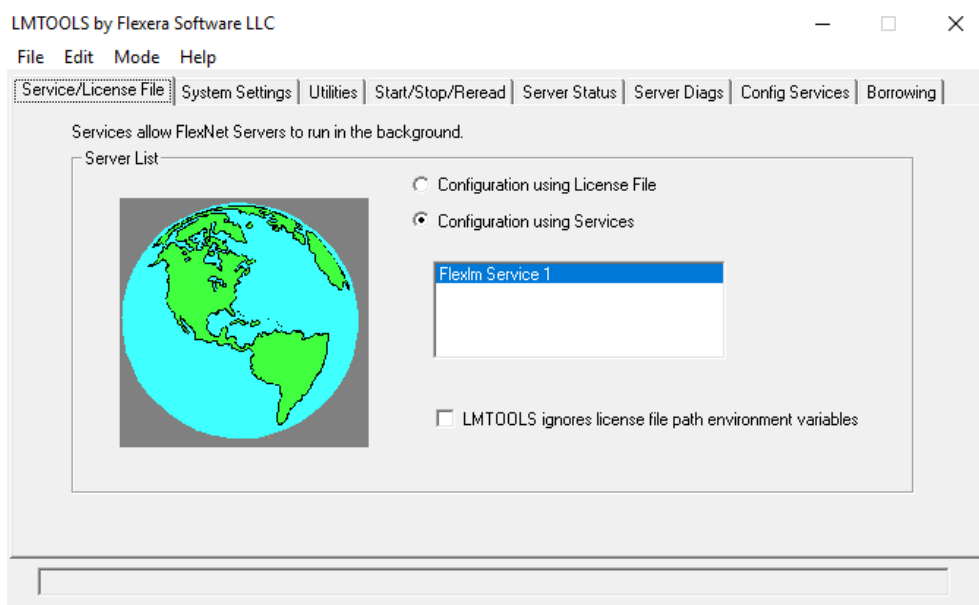

Figure 4.1.: EMPIRE XPU™ Lmtools Starting Window
- Select radio box **Configuration using Services** as in Fig. 4.1